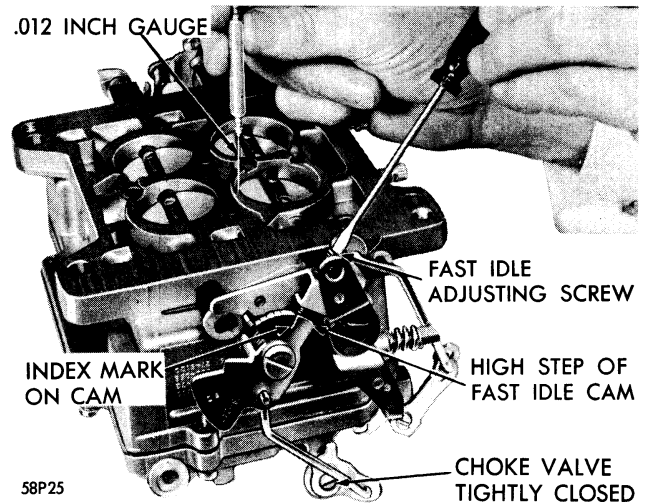

Figure 100—Checking Fast Idle Adjustment
**Fast Idle Adjustment**—With the choke valve held tightly closed, tighten the fast idle adjusting screw (on the high step of the fast idle cam), until wire gauge can be inserted between the primary throttle valve and the bore, side opposite idle port, as shown in Figure 100. The index mark on the fast idle cam should be in direct line with the fast idle screw. Refer to Data and Specifications for wire size.